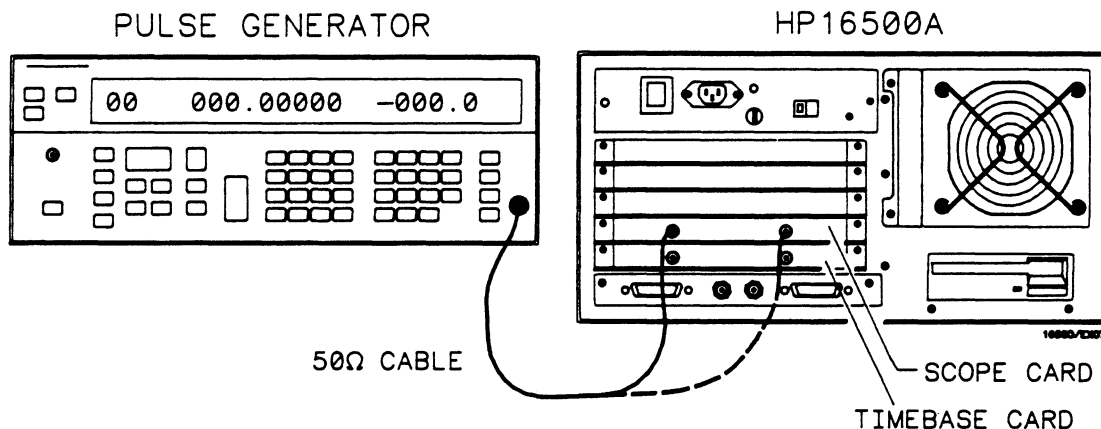

Figure 3-20. Trigger Sensitivity Test Equipment Hookup
- e. Connect signal generator as shown in figure 3-20.